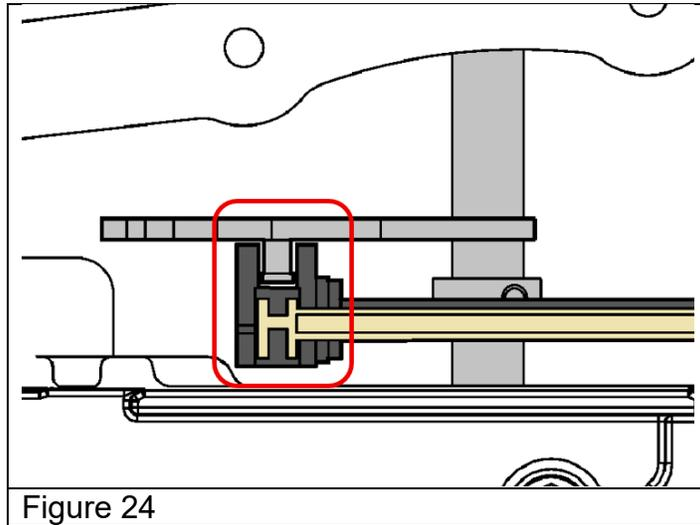

Figure 24
29. Install the valve body into the transmission while lining up the manual shift shaft position switch with the detent lever guide pin. See Figure 24.